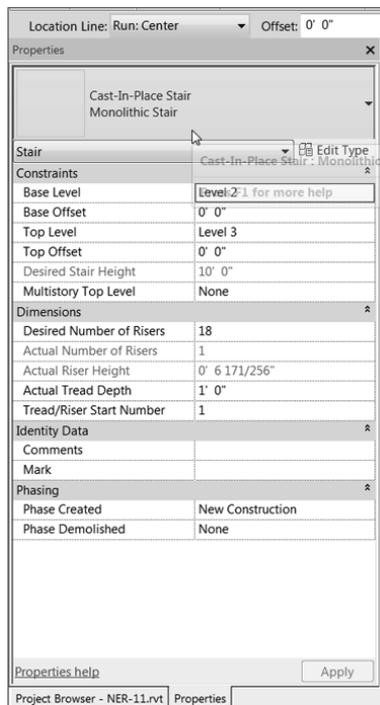

FIGURE 10.60: Configuring the stairs. As you can see, you have quite a few options.
2. In the Properties dialog box, make sure you choose Cast-In-Place Stair Monolithic Stair, as shown in Figure 10.60, and click the Edit Type button.